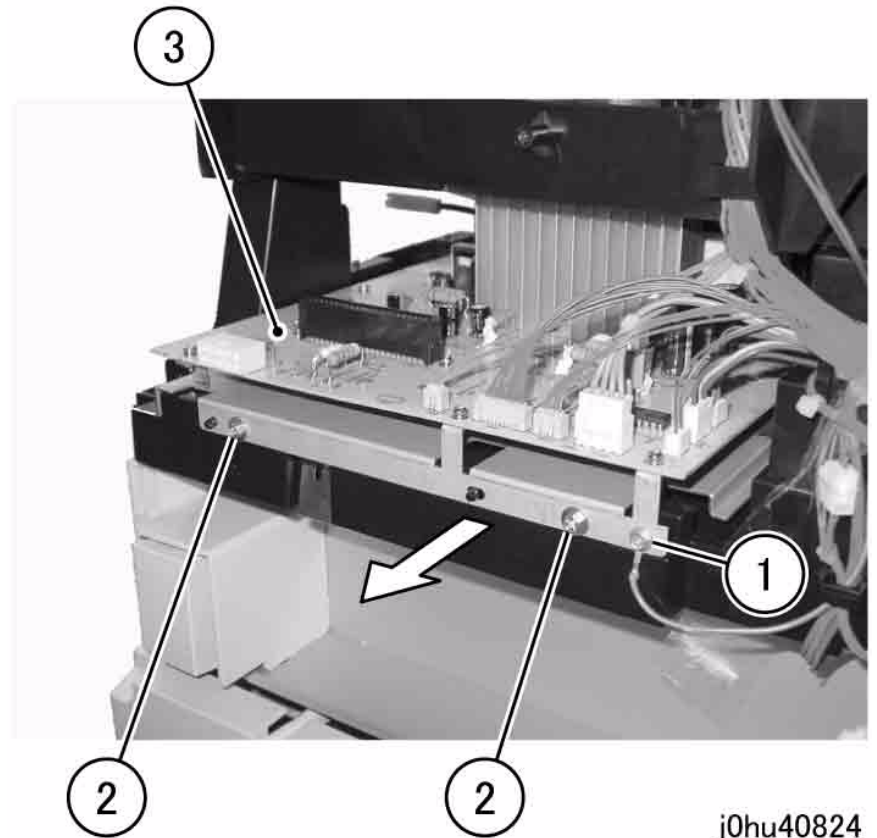

Figure 6 Remove the LVPS
9. Remove the LVPS (Figure 6).